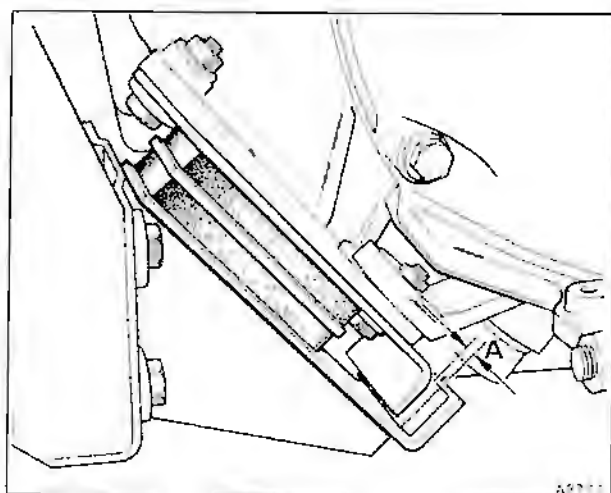

Fig H3-12 Rear engine mount setting
19. Check that the distance between the front engine mount stop plate and the bracket is between 1,5 mm and 2,2 mm (0.060 in and 0.090 in). Adjust if necessary. On 1989 model year cars, also check that the rear engine mounts are set at between 4,0 mm and 5,5 mm (0.158 in and 0.216 in) as shown in Figure H3-12.